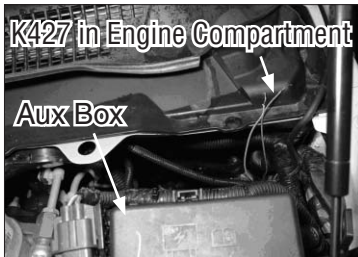

Figure 32
- Location of K427 Wire (**Fig. 32**)